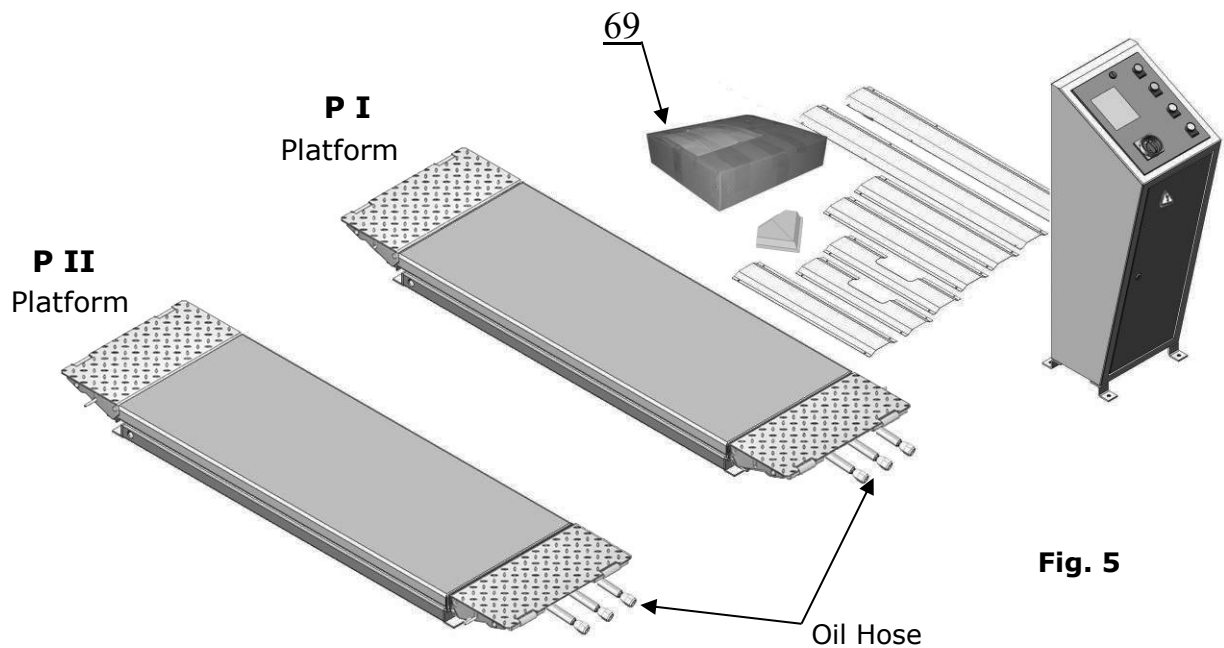

Fig. 5
2. Move aside the parts, open the outer packing and check the parts according to the shipment parts list (**See Fig. 5**).